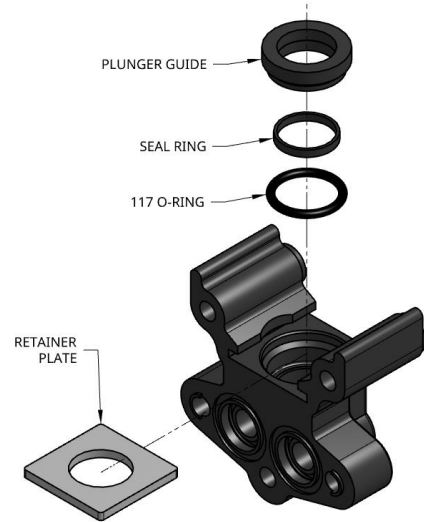

Figure 3
4. Place o-ring around seal ring and gently place in seal bore with both thumbs. See Fig. 3. Place plunger guide into seal bore, level above the o-ring/seal assembly.